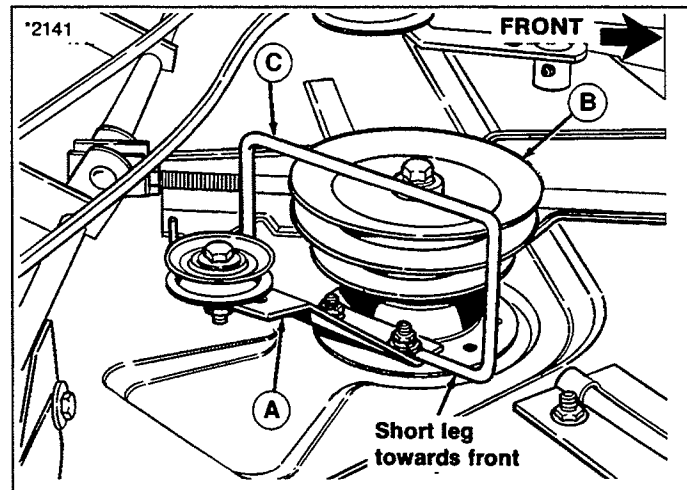

Figure 4.
7. See figure 4. Position the pulley bracket assy. (A) on the 1-1/2 taptite screws installed in step 6. Install the double groove pulley (B) to the arbor shaft. Reinstall the capscrew, lockwasher, and large flat washer removed in step 5. Torque capscrew to 50-70 ft.-lbs. (68-76 Nm).
8. **Mfg. No. 1691867 only.** See figure 4. Install new belt stop (C) to pulley bracket with the short leg towards
Mfg. No. 1692626. See figure 4. Install pulley bracket (A) using hardware removed in step 4. (A new nut and lockwasher is supplied with this kit and can be used in place if existing hardware). Tighten all hardware securely.